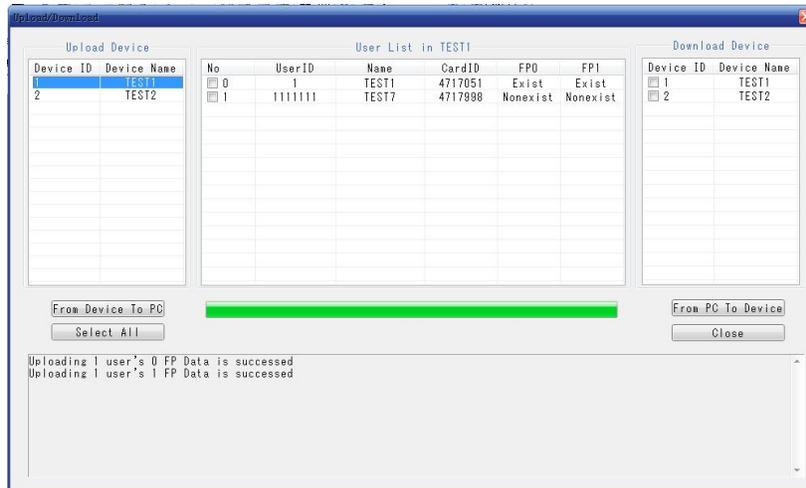

Figure 10
1. To select the device in the left of "Upload/Download" interface→ all users' information list will be shown in middle box (shown as Figure 10)